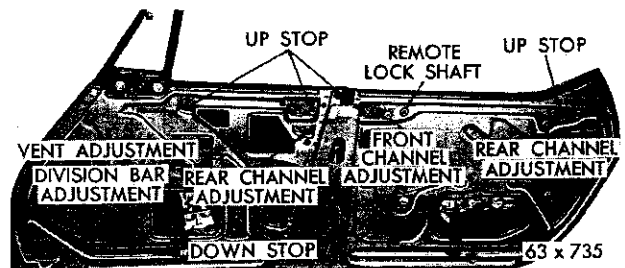

Fig. 18—Front and Rear Door Adjusting Points
(8) With the vent frame in position at the “A” post and making a good weather seal at the roof rail tighten the division bar adjusting stud lock nut and washer 30 to 50 inch pounds torque and retighten the two forward attaching screws 80 to 120 inch pounds torque.
(9) Run the door glass to the up position and test for ease of operation and contact roof rail weather seal.
(10) Adjust the rear guide upper adjustment so the glass makes light contact with the weather seal at the top of the door (Figure 18).
(11) Adjust the rear guide lower adjustment in or out so that the top edge of the glass makes a firm contact with the roof rail weather seal.
(12) Install the weather shield, upholstery trim panel and arm rest.
(13) Run the glass up and down several times and test for ease of operation.
- (1) Remove the remote control handle, trim panel, and garnish moulding.
- (2) Loosen the ventilator wing attaching bolts and divisional bar adjusting nut.
- (3) Position the ventilator wing assembly in the door opening to line up with the front door post and roof rail.
- (4) Tighten the attaching screws and divisional bar nut.
- (5) Inspect the ventilator for proper alignment.
- (6) Raise the window and inspect alignment with the roof rail and weatherstrip.
- (7) Adjust the rear guide upper adjustment to align the window with the outer edge of the weatherstrip so that only light contact is maintained with the lip of the weatherstrip.
- (8) Adjust the rear track (Fig. 18) in an out
### 17. REAR DOOR GLASS ADJUSTMENT (HARDTOP) (Fig. 18)
### 18. REAR DOOR GLASS ADJUSTMENT (HARDTOP) (Fig. 18)
(1) Remove the inside handles and remote lock lever.
(2) Remove the upholstery trim panel and weather shield.
(3) Loosen the upper and lower channel adjusting screw lock nuts (Figure 18).
(4) Run the upper channel adjusting screws either "in" or "out" so that the glass makes light contact with the door upper weather seal.
(5) Remove the channel adjusting screws either fore or aft until the front edge of the rear door glass evenly contacts the seal of the front glass.
(6) Tighten the locking nuts of the upper adjusting screws.
(7) Adjust the lower track adjusting screws so that the top edge of the glass seals against the lip of the roof seal. Turning the screw in will move the top of the glass inboard and turning the screws out will move the top of the glass outboard. (Fig. 18).
(8) Tighten the locking nuts, install the weather shield, upholstery trim panel and install the inside handles and remote lock lever.